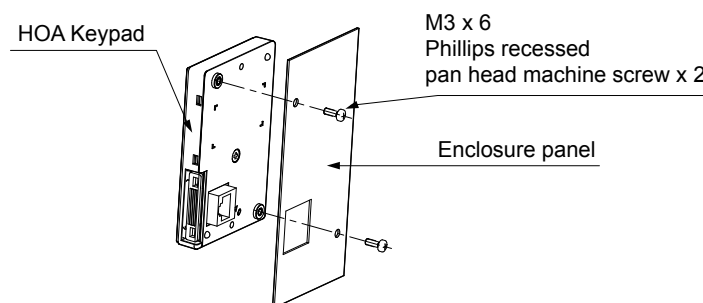

Figure 2.9 External/Face-Mount Installation
2. Position the HOA keypad so the display faces outwards, and mount it to the enclosure panel as shown in Figure 2.9.